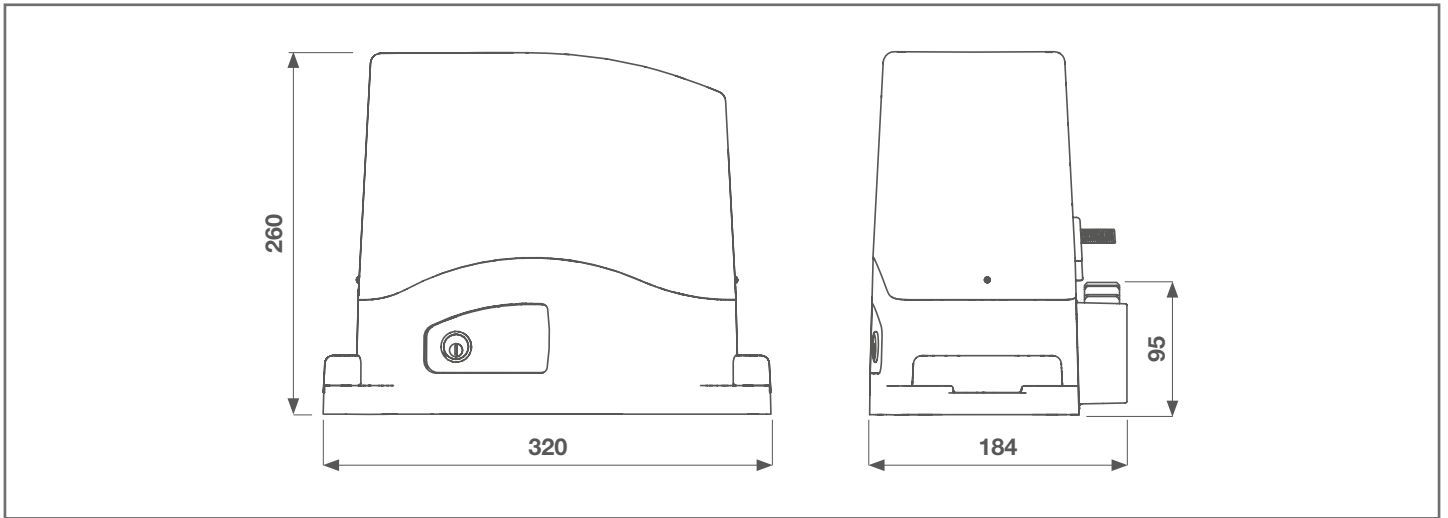

Fig. 2 IT - Installazione tipica
- The weight and size of the gate or door must be within the maximum permissible operating limits specified in Fig. 2
Fig.2 is an example of a typical system: